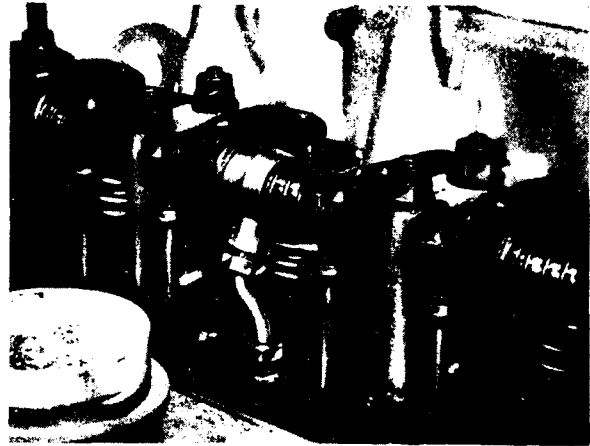

Fig. G.2.
9. Unscrew oil feed pipe to rocker shaft at cylinder head end (Fig. G.2).